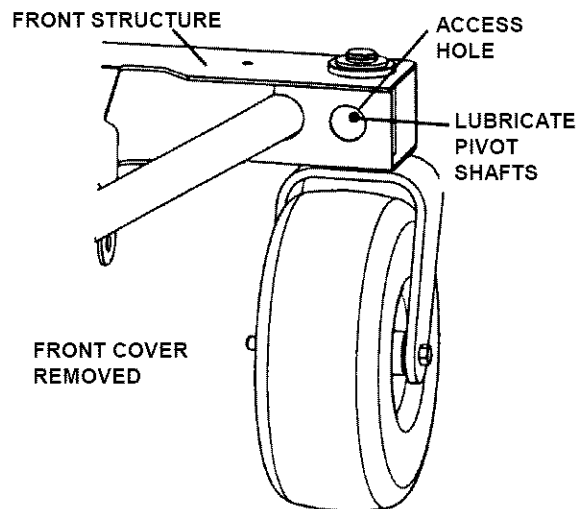

FIGURE 3.6
- a. The pivot shaft grease fitting can be accessed through a hole at the rear of the front structure. Lubricate pivot shaft with three shots of general purpose grease from grease gun. See Figure 3.6.